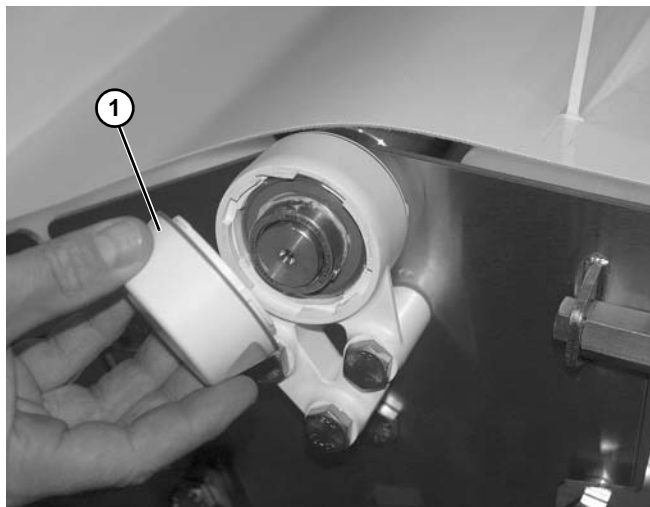

Figure 193
1. Remove bearing cap (Figure 193, item 1).